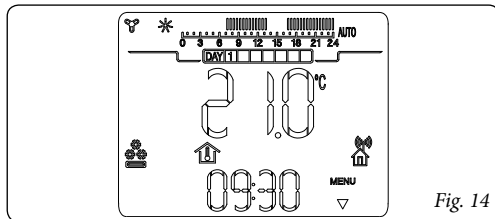

Fig. 14
- **Chiller control mode (❄️).** It is possible to enable CRONO 7 on control of a chiller for cooling environments (for enabling of this function, see par. 9.3). In "cooling" mode the CRONO 7 can function in automatic or manual mode. For the description of functioning see chapter 6. The display shows the day and current time, the room temperature and the hour bar with the daily programming of the cooling timer along with the relative symbols (fig. 14).